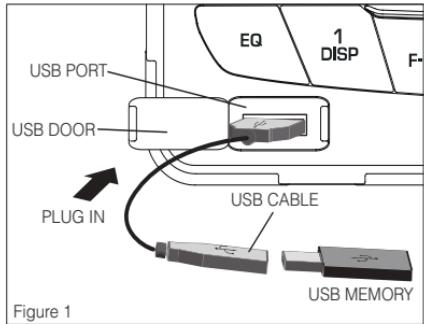

Figure 1
- Open the USB door ① and plug in USB cable extension with USB memory into USB port (as shown in Figure 1). Press the POWER/MODE button to switch to USB mode and play MP3/WMA track.